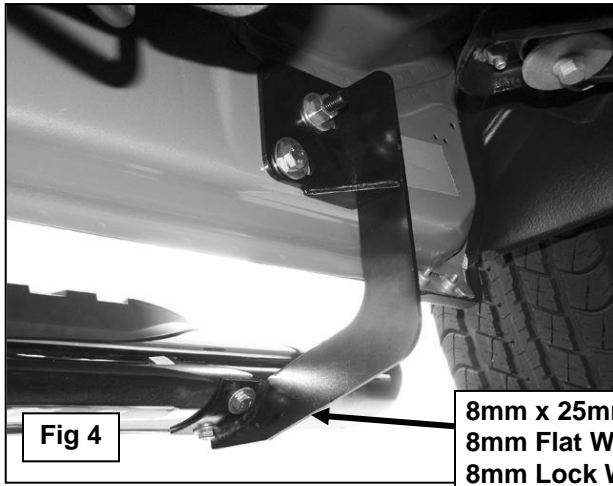

Fig 4
- Once all of the driver side Brackets have been installed, carefully position the driver Sidebar onto the (3) Mounting Brackets. Attach the Sidebar to the cradles on the Mounting Brackets with the included (6) 8mm x 25mm Hex Bolts, (6) 8mm Lock Washers, and (6) 8mm Flat Washers, **(Figure 4)**. Do not tighten hardware at this time. **IMPORTANT:** If you are having any difficulty with installation, check Mounting Bracket location first. Use the illustration on **Page 1** to identify the Mounting Brackets.